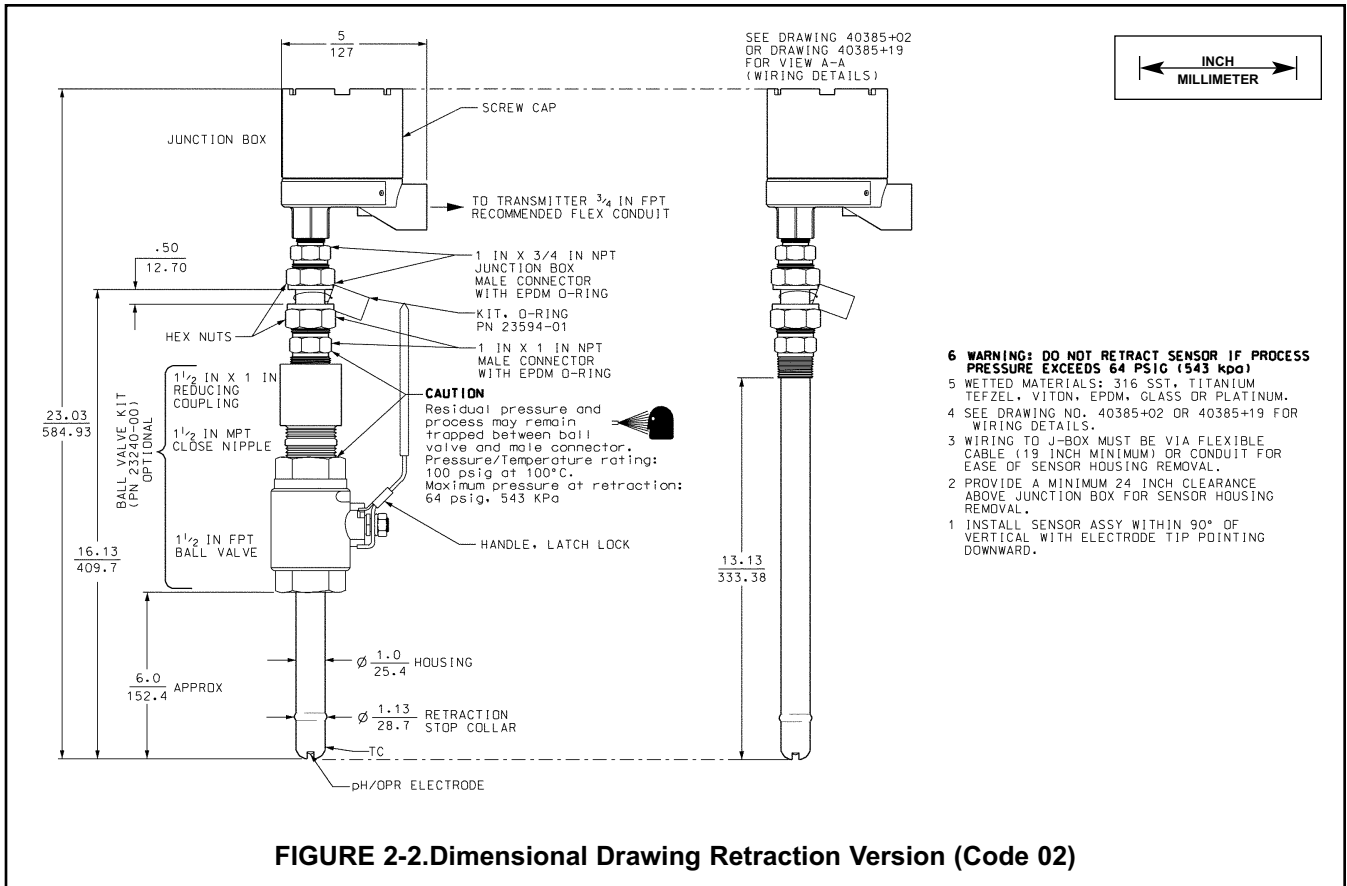

FIGURE 2-2. Dimensional Drawing Retraction Version (Code 02)
2.2.1 Retraction Option. (Code option -02) The Model 385+ Sensor may be installed through a weldolet or in a pipe tee or "Y", as shown in Figure 2-1, when used with a ball valve. Insert the end of the sensor to a depth sufficient to ensure that the glass bulb is continuously wetted by the process fluid. The Model 385+ can also be inserted directly into the process without the use of a ball valve for applications not requiring continuous operation during sensor maintenance (Figure 2-2). **ALLOW SUFFICIENT ROOM FOR SAFE RETRACTION AND INSERTION OF THE SENSOR. PERSONNEL SHOULD HAVE ROOM FOR STABLE FOOTING WHILE PERFORMING REMOVAL OR INSERTION OF THE SENSOR.**